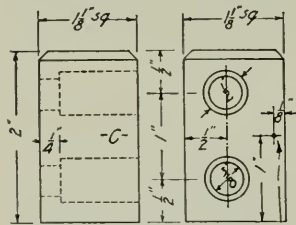

Fig. 4. Diagram showing construction of lamp
The lamp (C), Fig. 4, is made of hard wood, 1 1/8" square, into which holes are bored as shown in the figure. Small 3 1/2 volt flashlight lamps fitted into miniature sockets are put into the 1/2" hole as far as they will go. The end is then filled with putty so that it is lightproof. The 3/8" holes are covered with tissue paper, the top with white and the bottom with red. The lights may be connected in multiple or series, depending on the voltage of the current. If small telephone switchboard lights and the opals which fit into the switchboard sockets can be procured the holes may be bored smaller and a much neater effect secured.